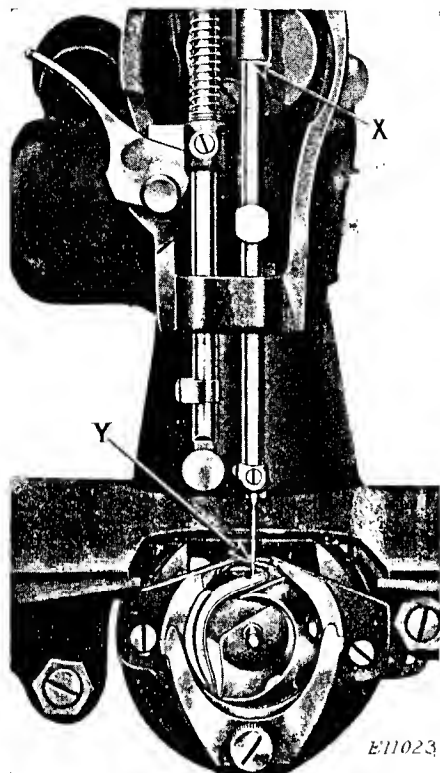

FIG. 19. SHUTTLE TIMING
Turn balance wheel over toward you until the **lower** mark is just visible at the lower end of the needle bar bushing as shown at (X, Fig. 19), when needle bar is on its upward stroke. When the needle bar is in this position, turn the new shuttle driver on oscillating shaft to bring the point of the new shuttle to centre of needle as shown at (Y, Fig. 19). **While setting shuttle point at centre of needle, make certain that the end of the cushion spring (B, Fig. 24) is not compressed by the heel of the shuttle (A, Fig. 24), toward or against the lower end of the shuttle driver.**
In case the position of the needle bar bushing has been disturbed, turn the balance wheel toward you until the point of the shuttle is at the centre of the needle and a scant $\frac{1}{16}$ inch above the top of the needle eye. Loosen screw (B) and move bushing up or down until its lower end is even with the **lower** timing mark at (X, Fig. 19). Tighten screw (B). See timing instructions on page 24.